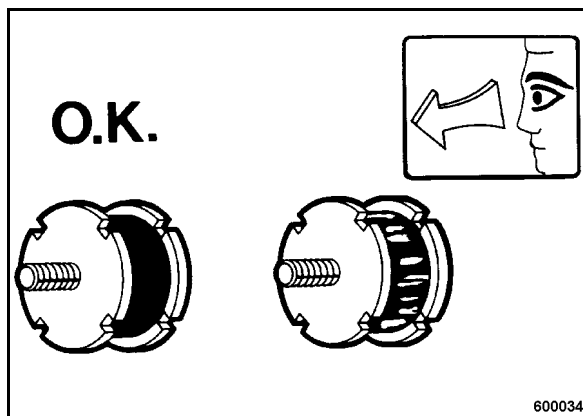

Fig. 70
- Check all rubber buffers (Fig. 70) for tight fit, cracks and damage and replace immediately if damaged.